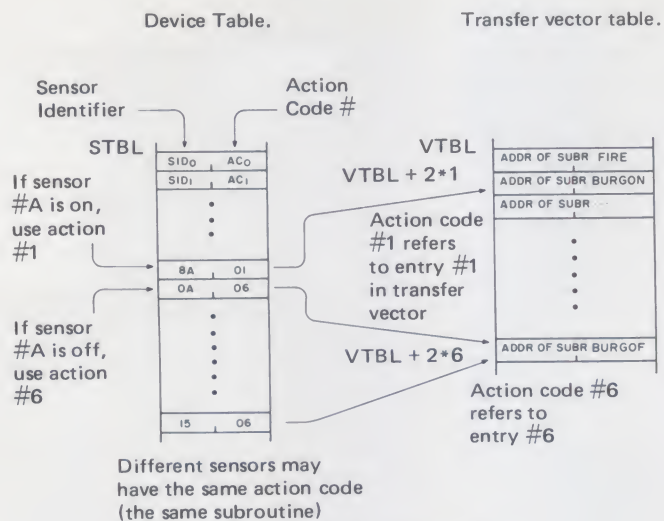

Fig. 2. Cross-referenced Data Tables.
OFF. So if we use either table, the same subroutine addresses will be repeated often. We could replace each subroutine address with a one-byte pseudonym for the subroutine, and this would make the table even smaller. Fig. 2 illustrates this new structure. It has two tables: the device table and the transfer-vector table. The device table is a sequence of entries; each entry is two bytes long and contains, in order, the state and identifier of the sensor (SID) and an action code (AC). The action code identifies the type of action to be taken, so it indirectly names the subroutine to be used for that event. Each action code is associated with one specific subroutine. We can keep the addresses of these subroutines in a table — a transfer vector — and we can use the action code to index into the transfer-vector.
Fig. 2 shows two sample entries. The third entry in the device table shows that if sensor number 0A has state=1, then we should take action number 1, and this is subroutine BURGON. The next entry shows that if sensor 0A has state=0 then we need action type number 6, and routine BURGOF should process it.
tine to handle the event. When completed, it will return control to the main program at the point at which it was interrupted. Figs. 2 and 3 in last month's article show the operation of the stack during this sequence. Because of the way this interruption and processing occurs, it can be independent of the main program. So it can take place while you are running your BASIC games, doing your daily accounting, or whatever. If the interrupt processing is short and fast, you won't even notice that it happened — unless, of course, it sets off an alarm!